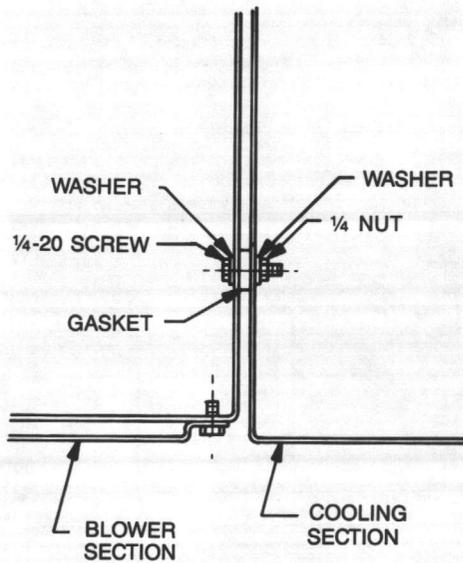

FIGURE 8.
1. Illustrations show how the flanges of the various sections are bolted together. Figures 8 through 15 show how to fasten accessories to the coil section. The same procedure should be followed when bolting accessories to the blower section.